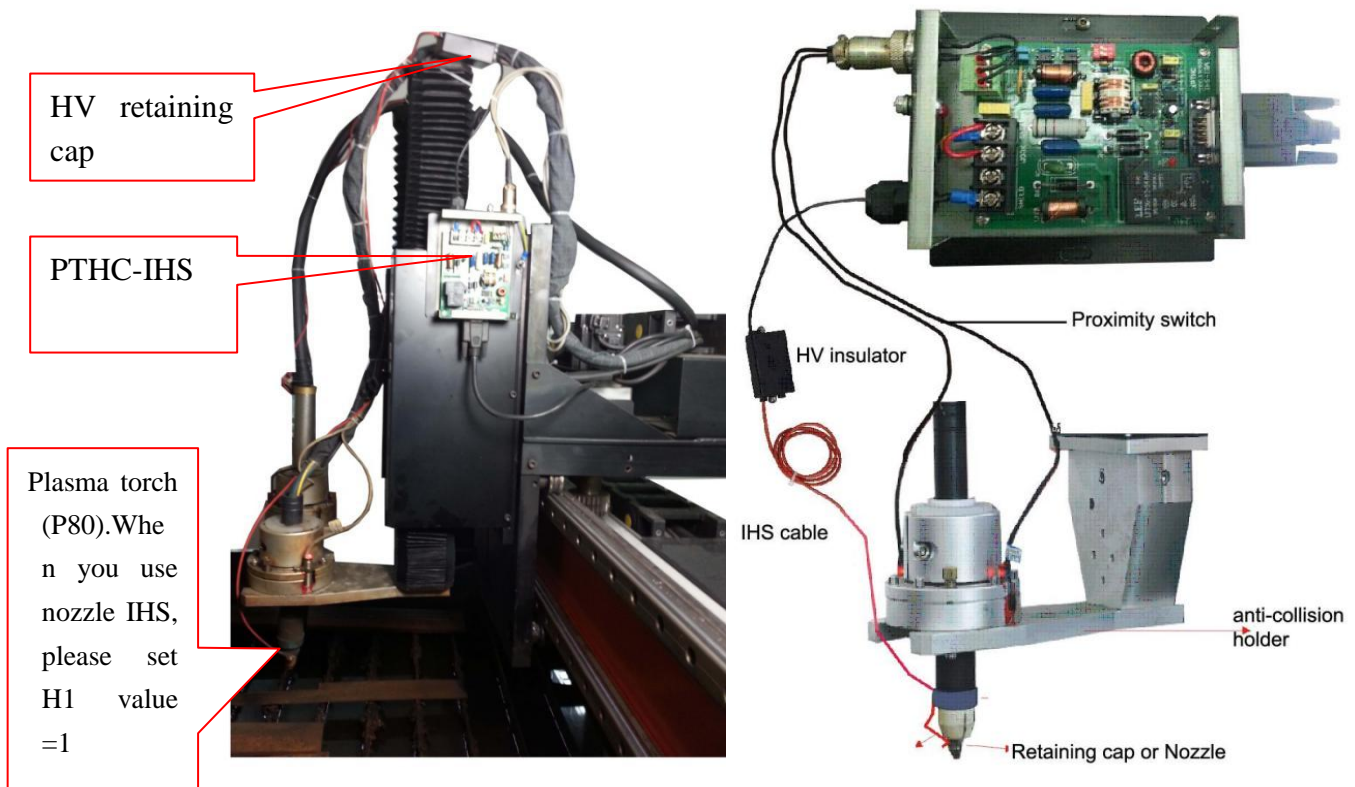

Fig 3-3
3.2.3、IHS controller installation. As Fig 3-3.